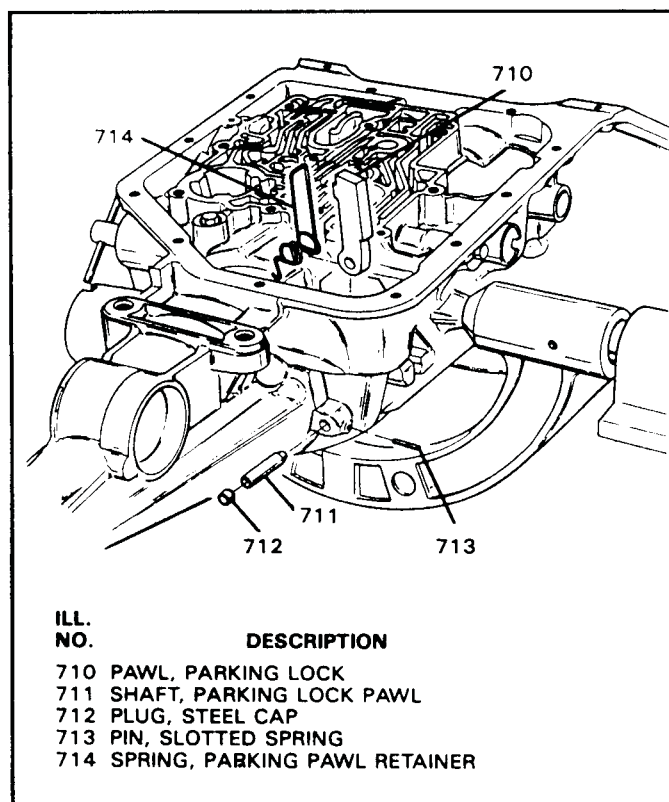

Figure 56
15. Remove the parking pawl and spring ONLY IF NECESSARY from the transmission case shown in Figure 56.